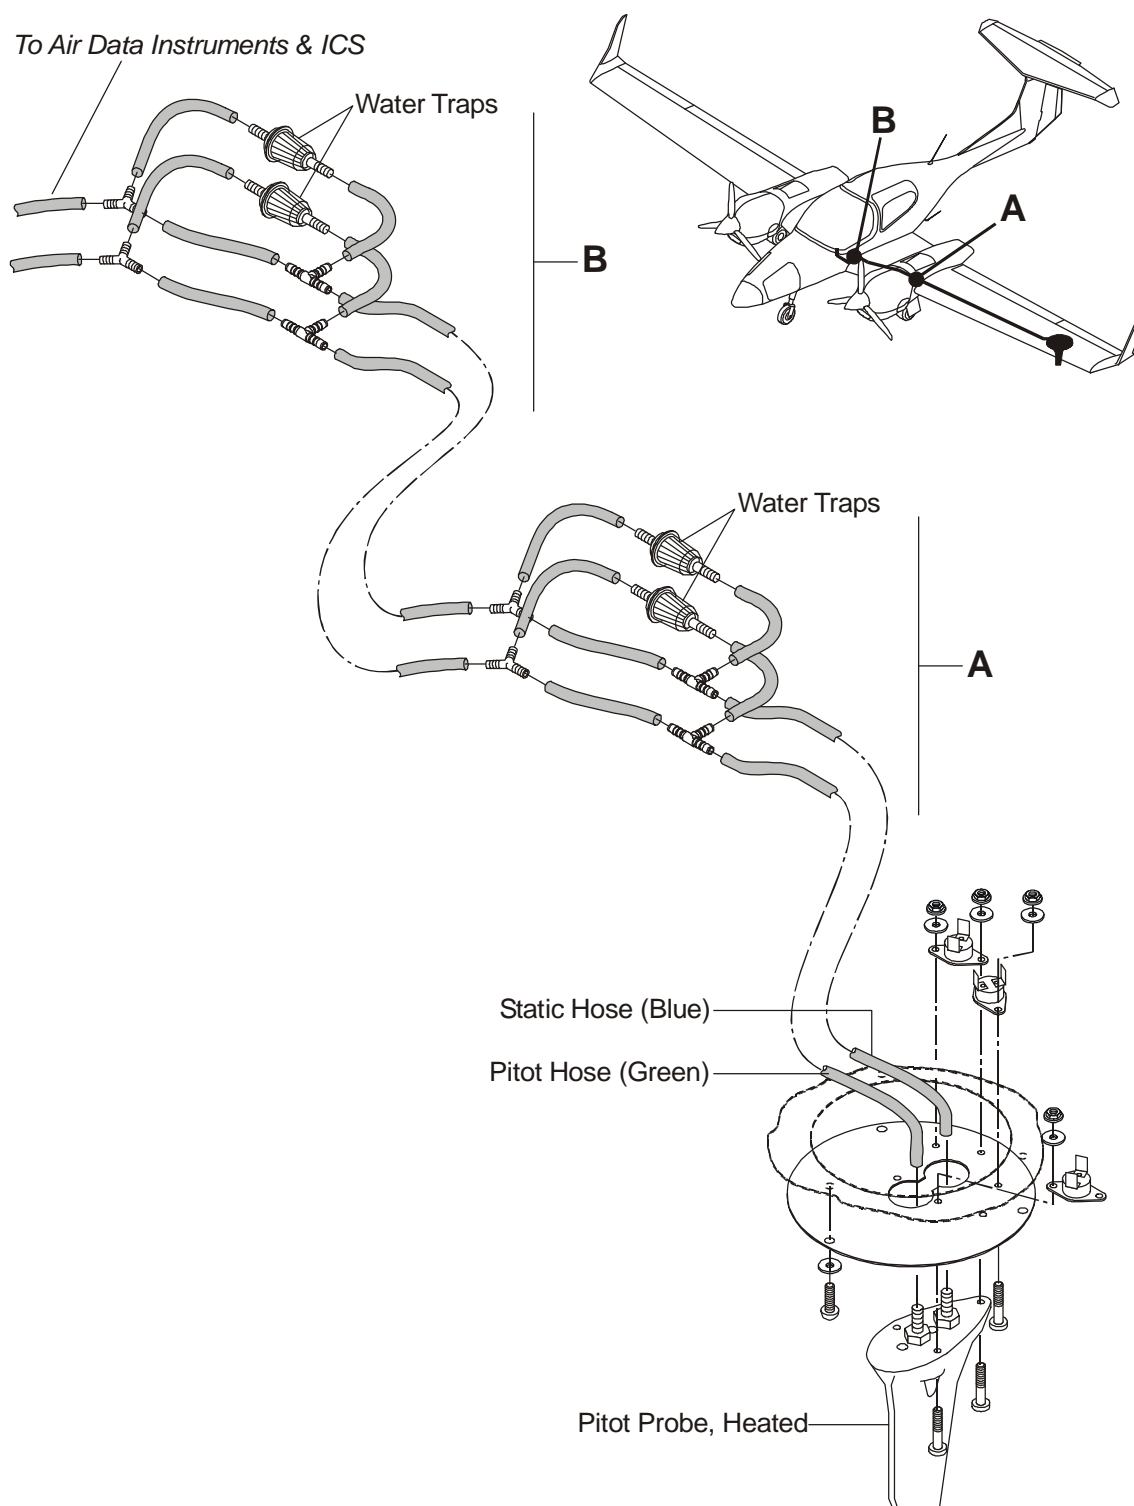

Figure 1: Pitot Static Probe and Hoses (MÄM 42-049 NOT carried out)
- Figures 1, 2 and 3 show the Pitot static schematic diagram.